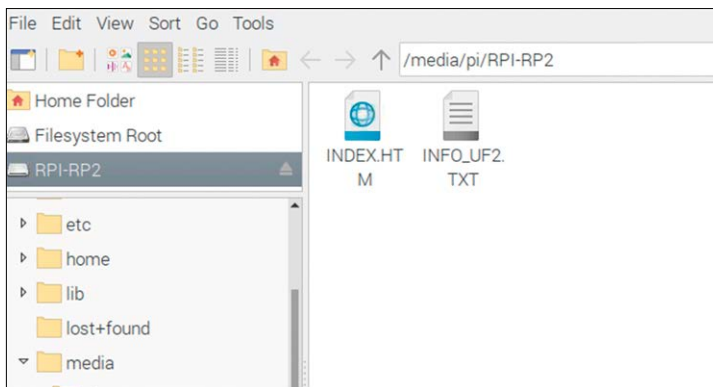

Figure 2.2: You will see two files.
- In the **File Manager** window, you will see two files with the names **INDEX.HTM** and **INFO_UF2.TXT** (see Figure 2.2).